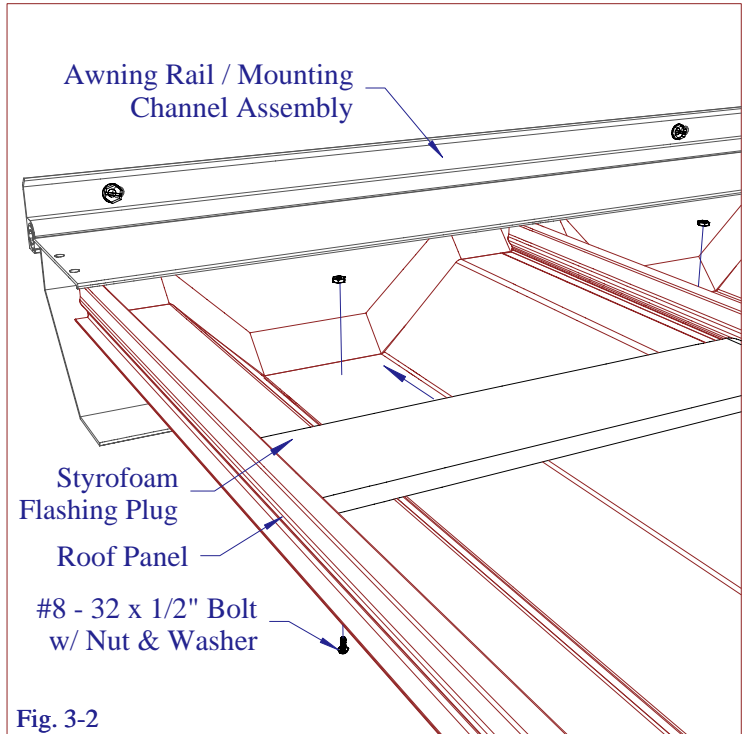

Fig. 3-2
- Working from underneath, attach roof panels to the wall channel with #8 - 32 x 1/2" bolt with nut and washer (see Fig. 3-2).
- After roof panel is secure, apply silicone to four faces of the styrofoam flashing plug and fit it between the mounting channel and roof panel (see Fig. 3-2).